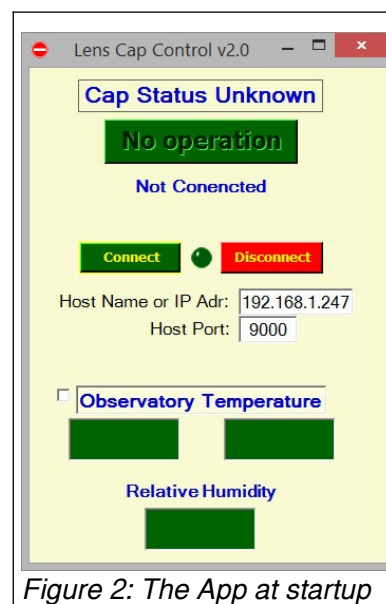

Figure 2: The App at startup
Copy the entire **Control Program** folder to your C: drive, then navigate to that folder and double-click **Telescope Lens Caps.exe** to launch the App. You should see a window that looks like Figure 2. If so, you have successfully installed the App. If not, send me an email (mike@mdodd.com) and I'll help you.
- Launch the App on your PC. The initial screen should look like **Figure 2**. If the IP address doesn't match what you specified when you ordered the system, enter the number you specified, and notify me of the discrepancy.
- Click the red **Disconnect** button to disconnect from the TLCC stack. The App again should again look like **Figure 2**.